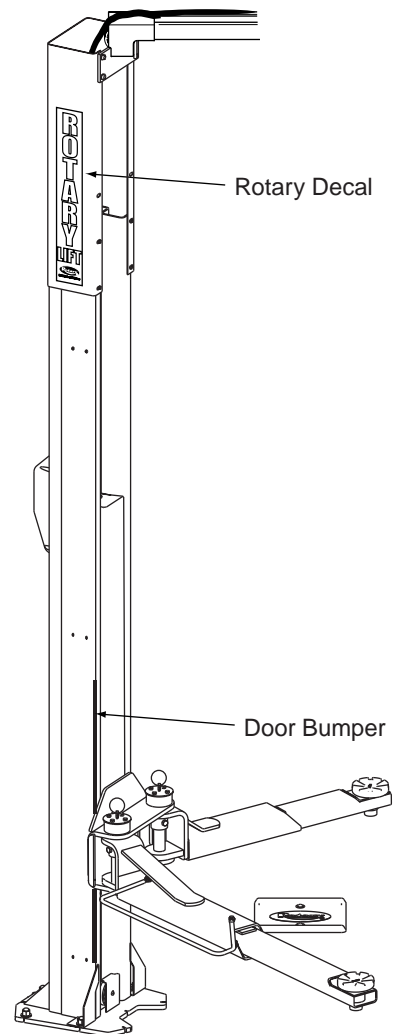

Fig. 24
**20. Decal Location:** Clean area where decals are to be placed. Remove backing from decals. Position and apply on approach sides of each column extension as indicated, Fig. 24, and press flat.
**21. Door Bumpers:** Place door bumpers on front of each column, see Fig. 24.